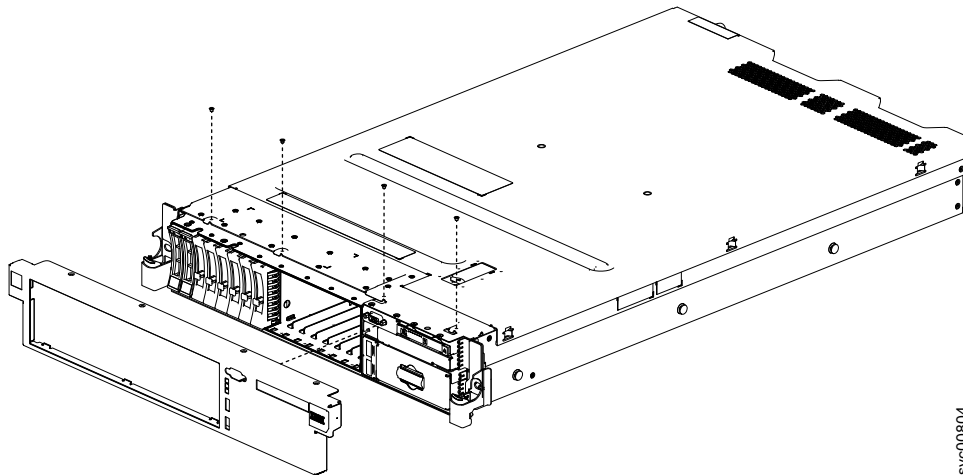

Figure 92. Replacing the SAN Volume Controller 2145-DH8 bezel
2. Insert the tabs on the bottom of the bezel into the slots on the underside of the chassis, and attach it with the screws, as shown in Figure 92 on page 113.